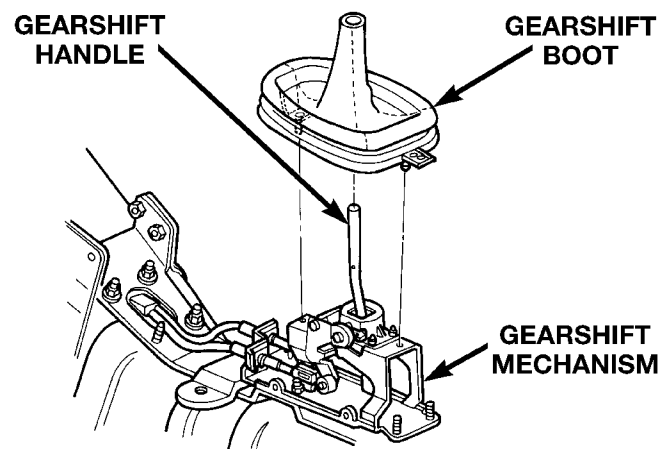

Fig. 9 Gearshift Boot
(3) Snip the plastic retaining clips at the base of the boot (Fig. 9). Remove the boot from the gearshift mechanism.